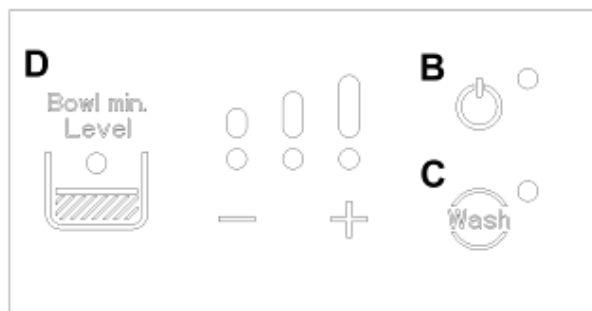

Fig. 74
- Select the desired mode of operation from the control panel (Fig. 74)
- To activate the cooling system in cooling mode push the power button B on the control panel (Fig. 74).
- To change the consistency of the mix, press the + and – keys of the control panel (Fig. 74). Pressing + will cause the number of LEDs lit to rise and consequently the consistency setting increases. Pressing – instead will decrease the number of LEDs lit and reduce the mix consistency (Fig. 74).
- To activate wash mode, push the button WASH button (button C in Fig. 74) after switching off the cooling system by pressing the power button B and making sure that its LED is off.